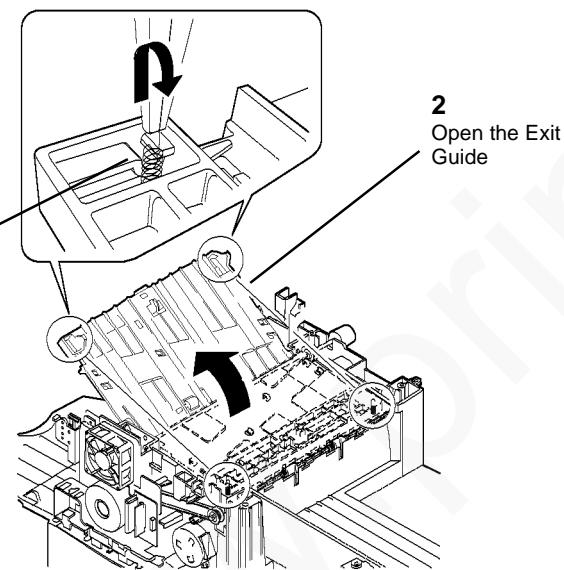

Figure 1 Opening the Exit Guide
2. (Figure 1): Open the Exit Guide.